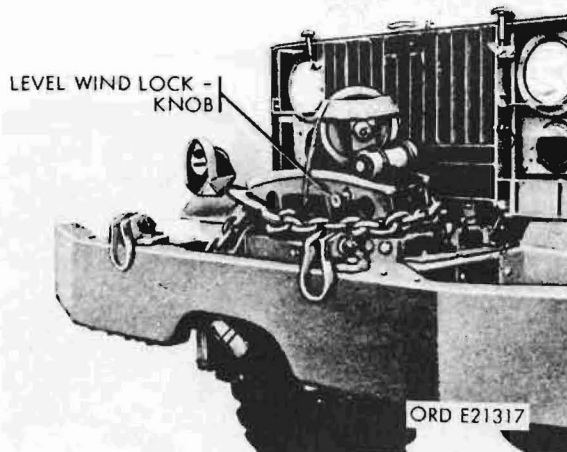

Figure 44. Front winch with level wind device
(30) Front-winch level wind lock knob (fig. 44).